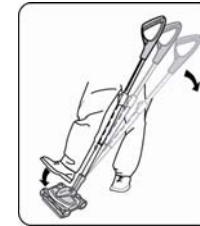

Fig. 7
- To release the handle to a comfortable position, gently apply pressure to the top of the sweeper head with your foot while pulling back on the handle. (Fig. 7)